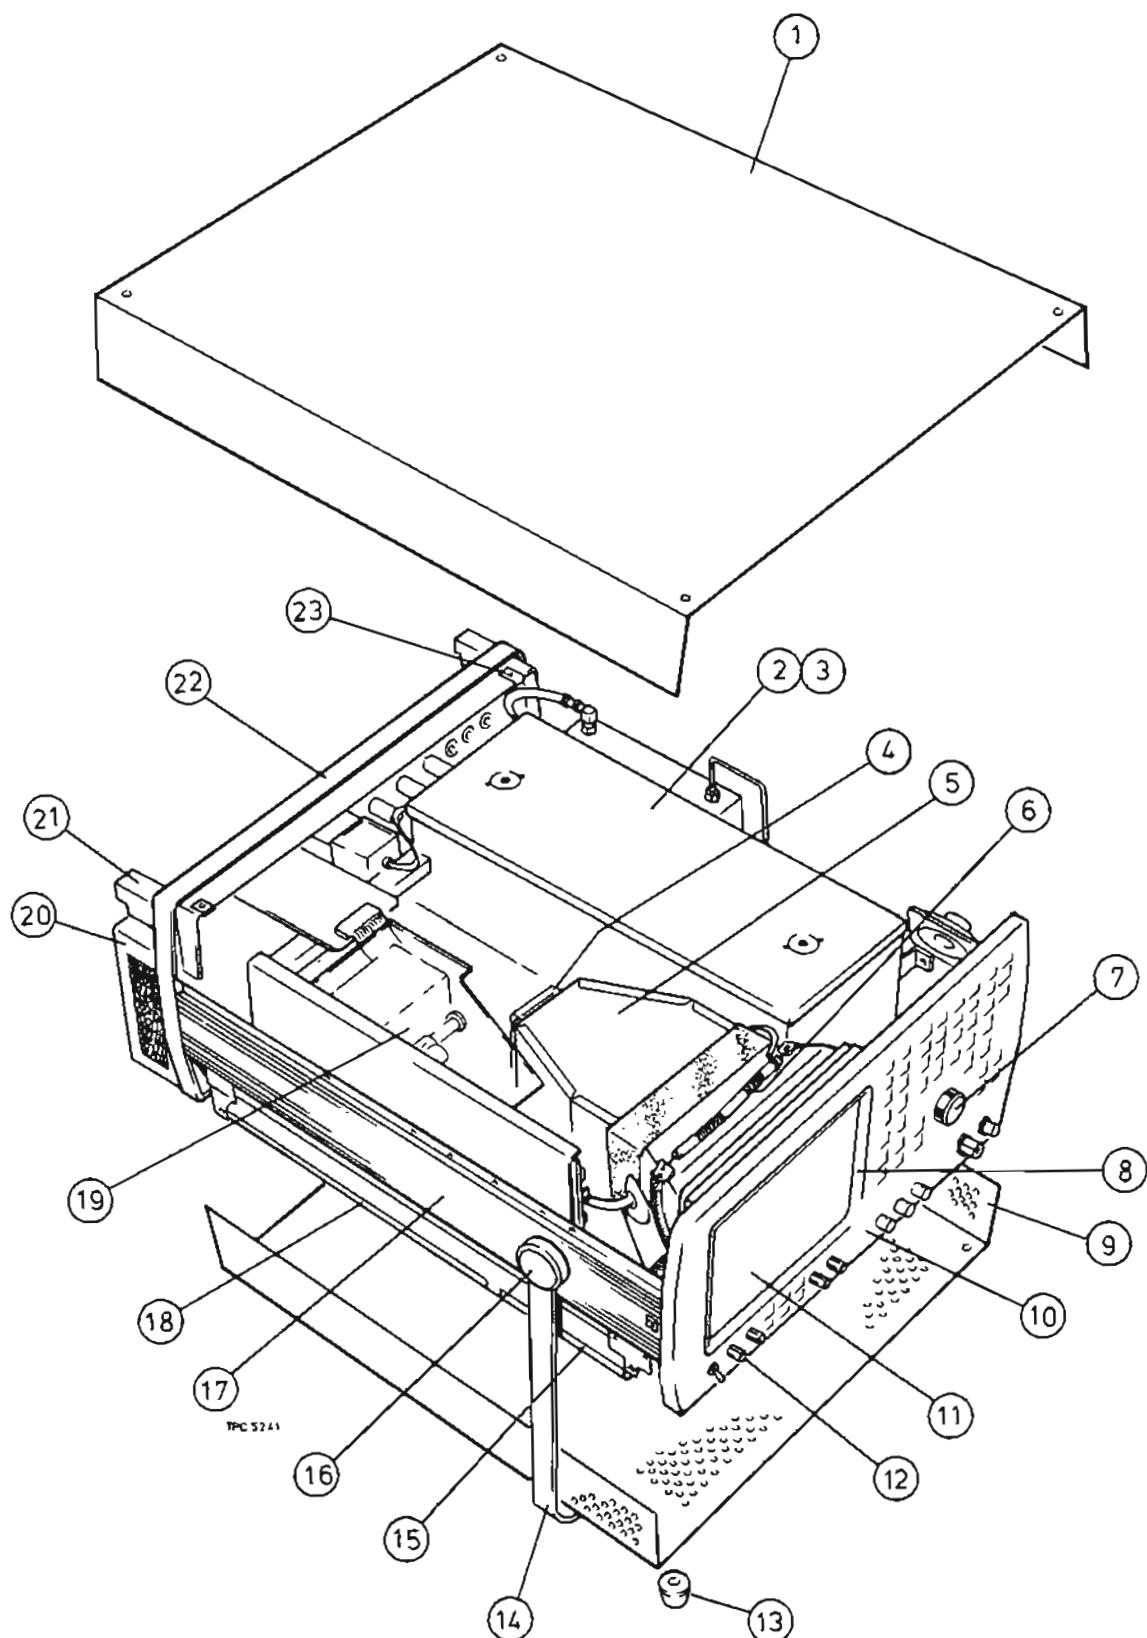

Fig. 1 Miscellaneous mechanical parts
31.	Order without prefix. Item numbers as shown in Fig. 1.